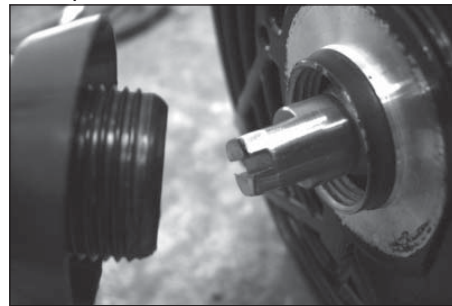

Figure 4
7. Remove motor shaft cover on rear of motor on all models except 59923-XXXX as you can fit a screw driver in the hole without removing back cover. (see Figure 4). Use a wrench or a large screw driver to stop motor shaft rotation.